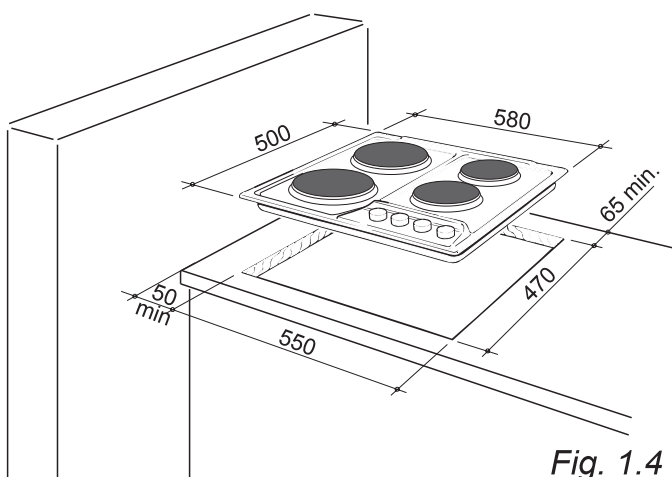

Fig. 1.4
In order to install the cooker top into the kitchen fixture, a hole with the dimensions shown in fig. 1.4 has to be made, bearing in mind the following:
- the cooker top must be kept no less than 50 mm away from any side wall (fig. 1.4);